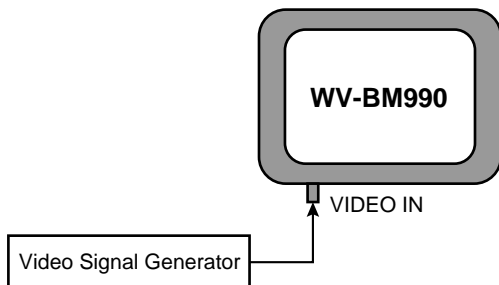

Fig 3-1
- Fig. 3-1 shows the connecting diagram for adjustment procedure of the WV-BM990.